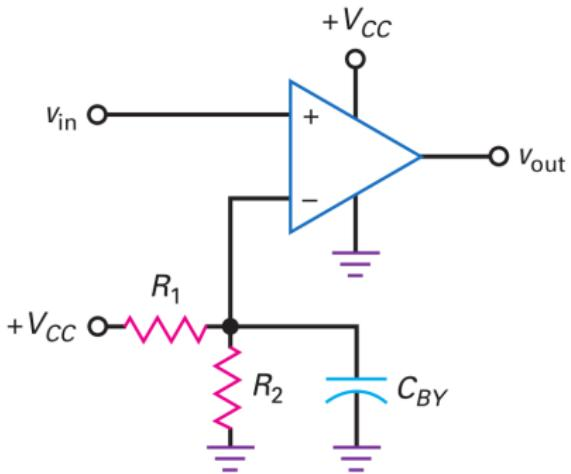

Figure 19: Single-supply comparator
- ▶ A typical op amp like the 741C can run on a single positive supply by grounding the $-V_{EE}$ pin, as shown in Fig. 19.